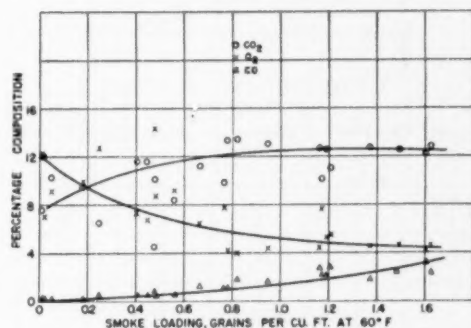

FIG. 13 COMPOSITION OF GAS
**Flue-Gas Analysis.** The composition of the gas plotted against the smoke loading, Fig. 13, gave erratic results in the case of  $\text{CO}_2$  and  $\text{O}_2$ . The carbon-monoxide concentration increased uniformly with the increase of smoke. This trend was also found by other investigators.6 The data from this series of tests must be viewed with the realization that they were not obtained with normal stoker operation. Dense smoke was obtained by pouring green coal on the top of the hot fuel bed. Coal was added when necessary to maintain the desired smoke-meter reading. To decrease the amount of smoke, secondary air was introduced through a port in the fire door. The conditions were more nearly representative of poor hand-firing operation immediately following the addition of fuel.